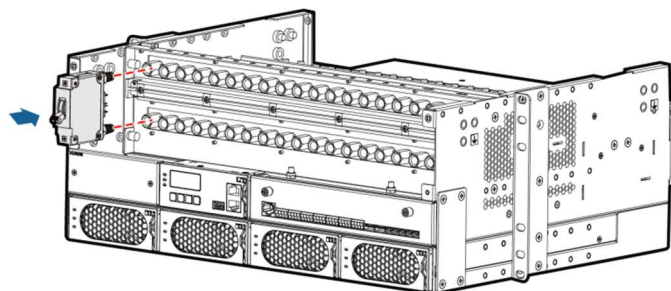

Figure 20 – Removing the Top Cover
Step 5 Insert the circuit breaker into the mounting holes and push the circuit breaker forward until it is in position, as shown in Figure 20.